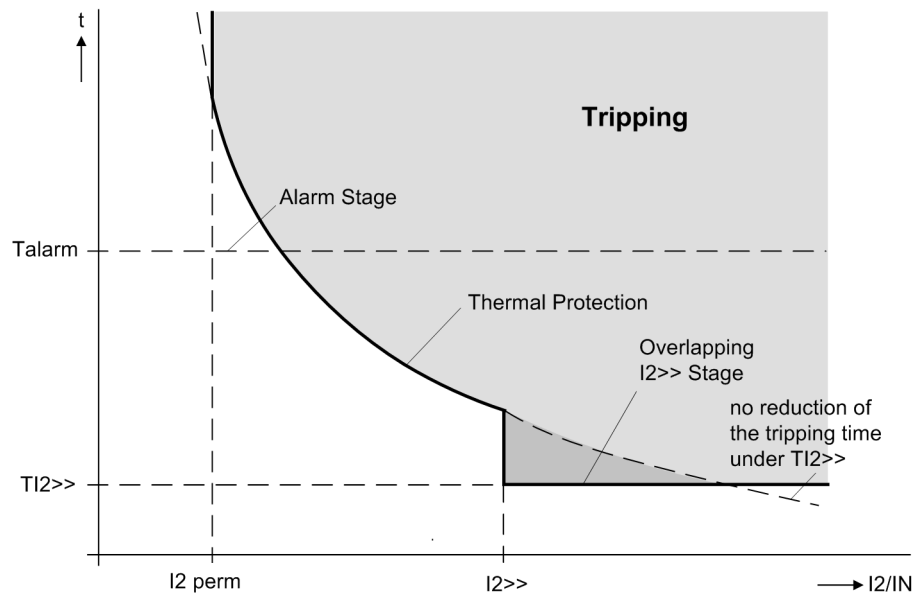

Figure 2-95 Resulting characteristic of the thermal asymmetrical load protection
Resulting Characteristic As the thermal replica only works after exceeding the permissible continuous negative sequence current „I₂ adm“, this value is the lower limit for resulting tripping characteristic Fig. 2-95). The area of the thermal replica connects to it with increasing negative sequence current. High negative sequence currents can only be caused by a phase-to-phase short circuit, which must be covered in accordance with the grading coordination chart. The thermal characteristics are therefore cut off by the definite time I₂>>-stage (see above under „Definite time stage (DT)“). The trigger time of the thermal replica does not fall below the trigger time of the I₂>>-stage